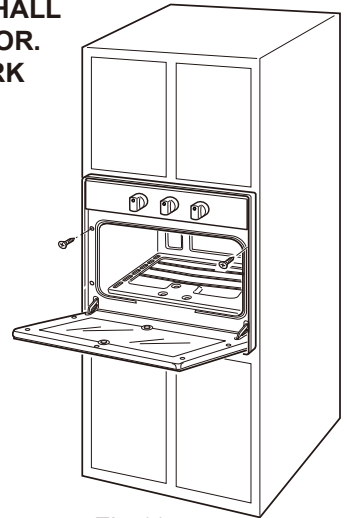

Fig.11
For **SAFETY CONSIDERATIONS** the oven **SHALL BE FASTENED** to the cabinet with two (2) **SUITABLE** screws (supplied with the unit) through the holes in the trim (see Fig.11). The unit should be leveled properly before being secured to the cabinet.